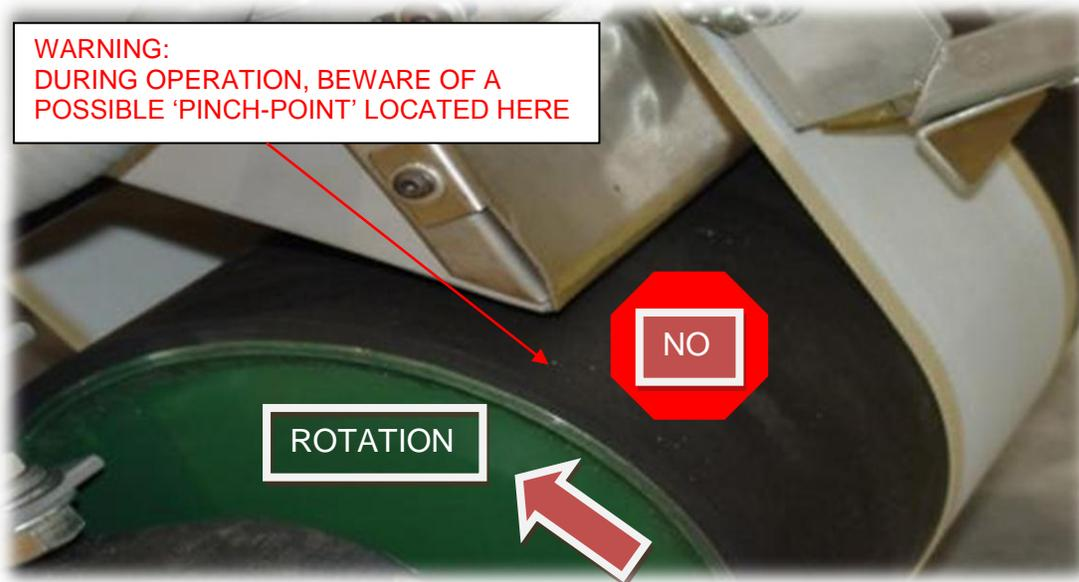

FIGURE 2
**-WARNING-** The bottom screen roll has a pinch point area that must be avoided. The rubber coated roll is capable of grabbing hands and fingers. **DO NOT** place your hands near this area while machine is in operation! **SEE FIGURE 2**